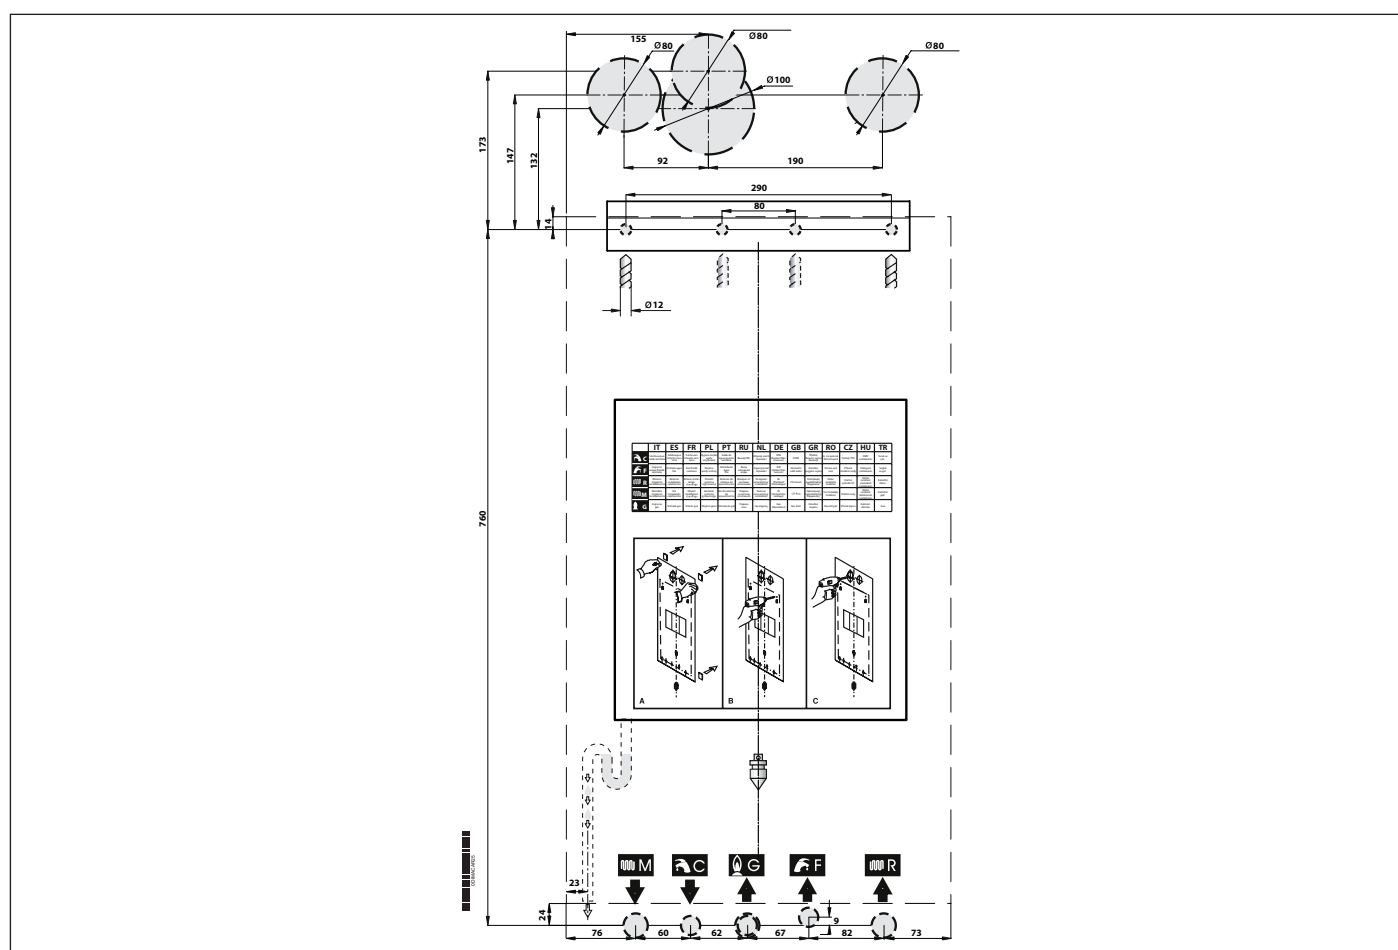

Fig. 9 Paper template
- » the template for mounting the boiler on a wall (see Fig. 9 Paper template);
Each boiler is supplied with a paper template, found inside the packaging (see Fig. 9 Paper template).